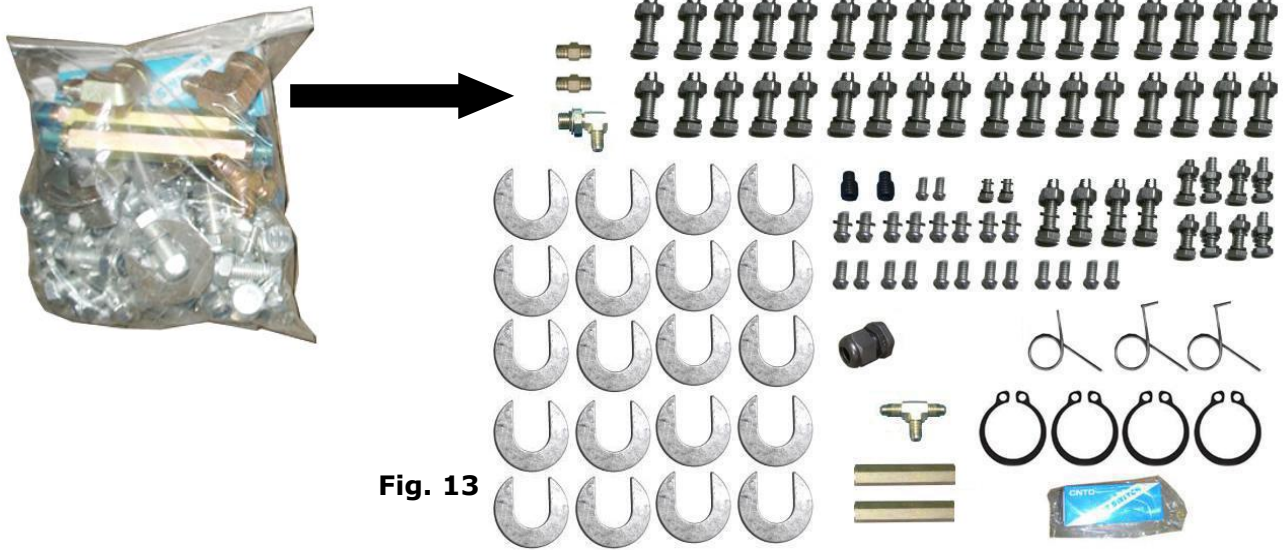

Fig. 13
6. Check the parts of the parts bag 1 according to parts bag list (See Fig. 13).